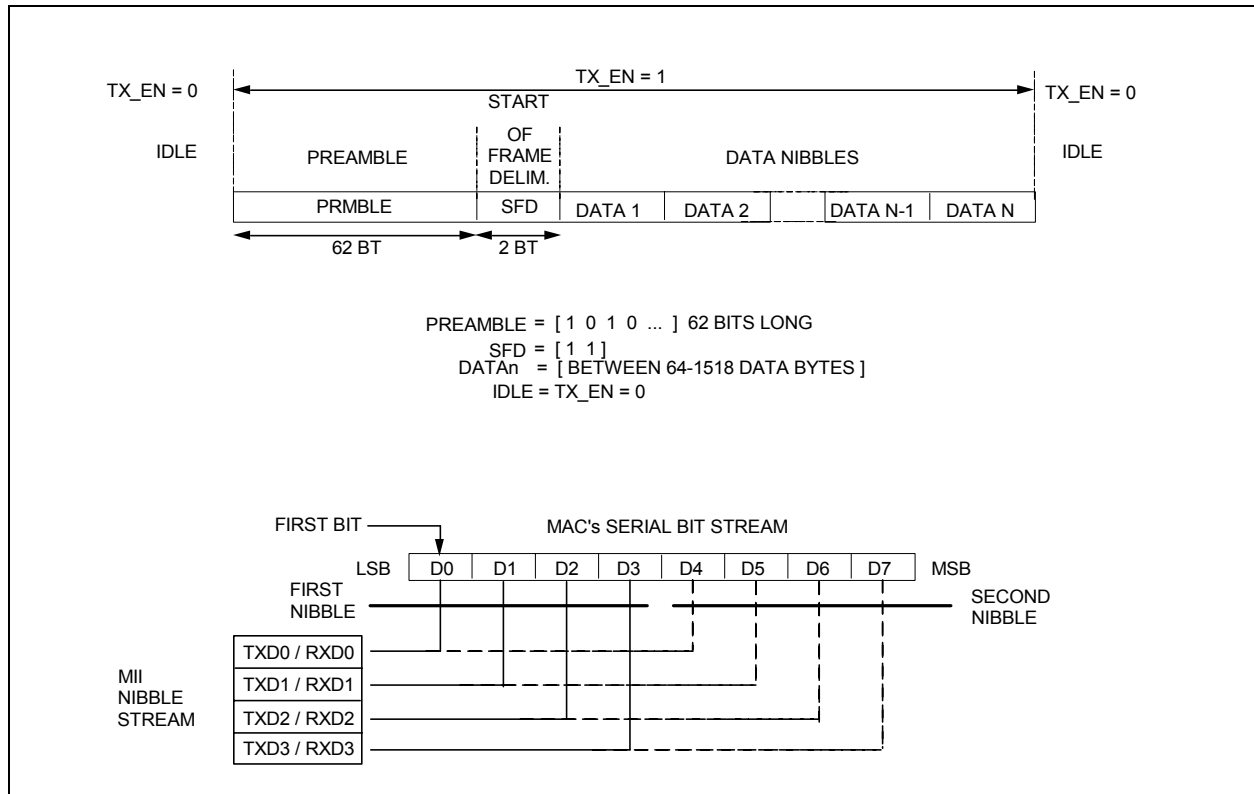

Figure 7.2 MII Frame Format & MII Nibble Order
The MII is a nibble wide packet data interface defined in IEEE 802.3. The LAN91C111 meets all the MII requirements outlined in IEEE 802.3 and shown in Figure 7.2.
Data recovery is performed by latching in data from the TP receiver with the recovered clock extracted by the PLL. The data is then converted from a single bit stream into nibble wide data word according to the format shown in Figure 7.2.
The clock recovery process for 10Mbps mode is identical to the 100Mbps mode except, (1) the recovered clock frequency is 2.5 MHz nibble clock, (2) the PLL is switched from TX25 to the TP input when the squelch indicates valid data, (3) The PLL takes up to 12 transitions (bit times) to lock onto the preamble, so some of the preamble data symbols are lost, but the clock recovery block recovers enough preamble symbols to pass at least 6 nibbles of preamble to the receive controller interface as shown in Figure 7.2.